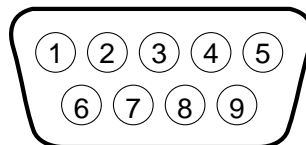

Figure 1. DB-9 Connector Pin Positions.
1. Using a 6-conductor shielded cable, connect one end of the cable to the indicator according to the indicator manufacturer's instructions. Wire the other end of the cable to a DB-9 male connector according to the Table 1 and Figure 1 below. Figure 1 illustrates the male end of a DB-9 cable connector.